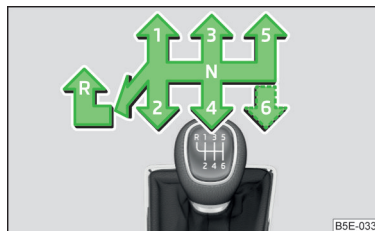

Fig. 232
The gearshift pattern for the individual gear positions is shown on the gear lever » Fig. 232.
- Push the shift lever downwards fully to the left and then forward into **R**» Fig. 232.